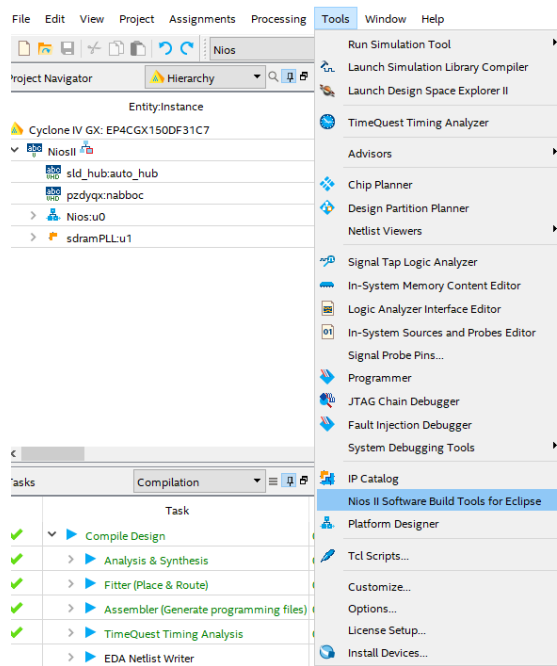

Figure 3-1
- 1.) Choose Tools → NIOS II Software Build Tools for Eclipse shown in Figure 3-1.